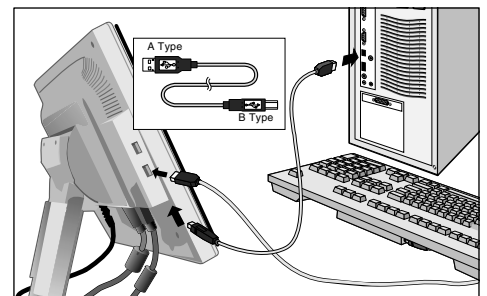
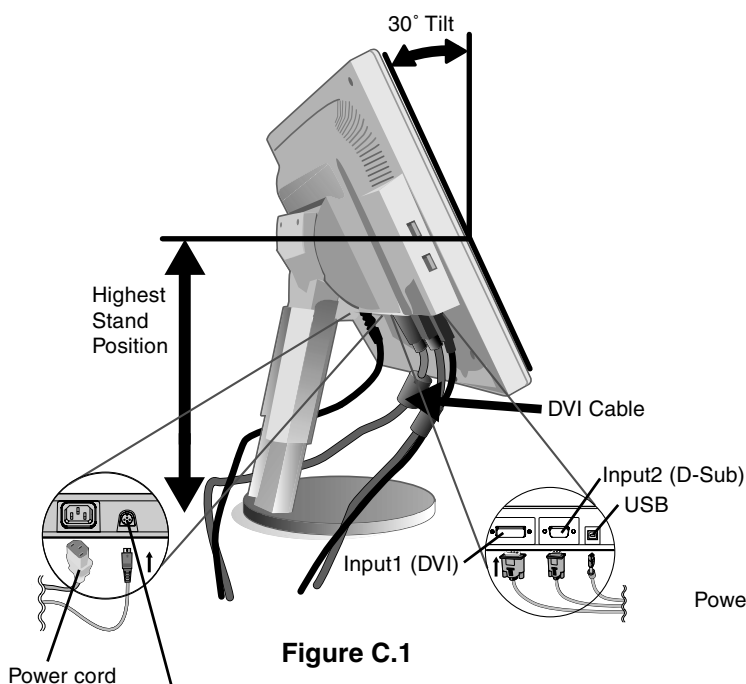

Figure B.2
Figure C.1
3. Place hands on each side of the monitor to tilt the LCD panel 30-degree angle and lift up to the highest position (**Figure C.1**).
4. Connect all cables to the appropriate connectors (**Figure C.1**). Using the USB cable, connect the B type connector to the USB upstream port on the bottom side of the monitor and A type connector to the downstream port on the computer (**Figure B.2**). If you can use the cord from the USB device, use one of the downstream ports on the side of the monitor.